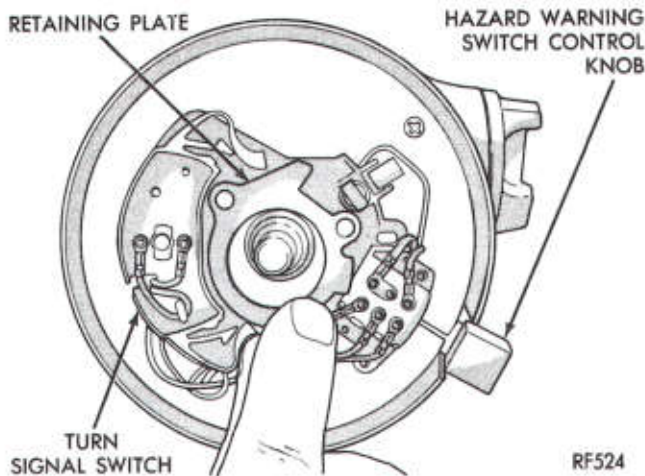

Fig. 6—Retainer and Turn Signal Switch
(1) Pry out wiring trough retainers and lift off wiring trough. New retainers may be required for reassembly (if applicable).
(2) To remove shift lever, use masking tape to protect paint and a deep socket to back up the housing then drive the retaining roll pin out with a punch.
(3) Secure steering column in a vise by clamping at the column bracket. Do not distort column.
(4) Remove turn signal switch and upper bearing retainer screws. Remove retainer and lift switch upward out of the way (Fig. 6).